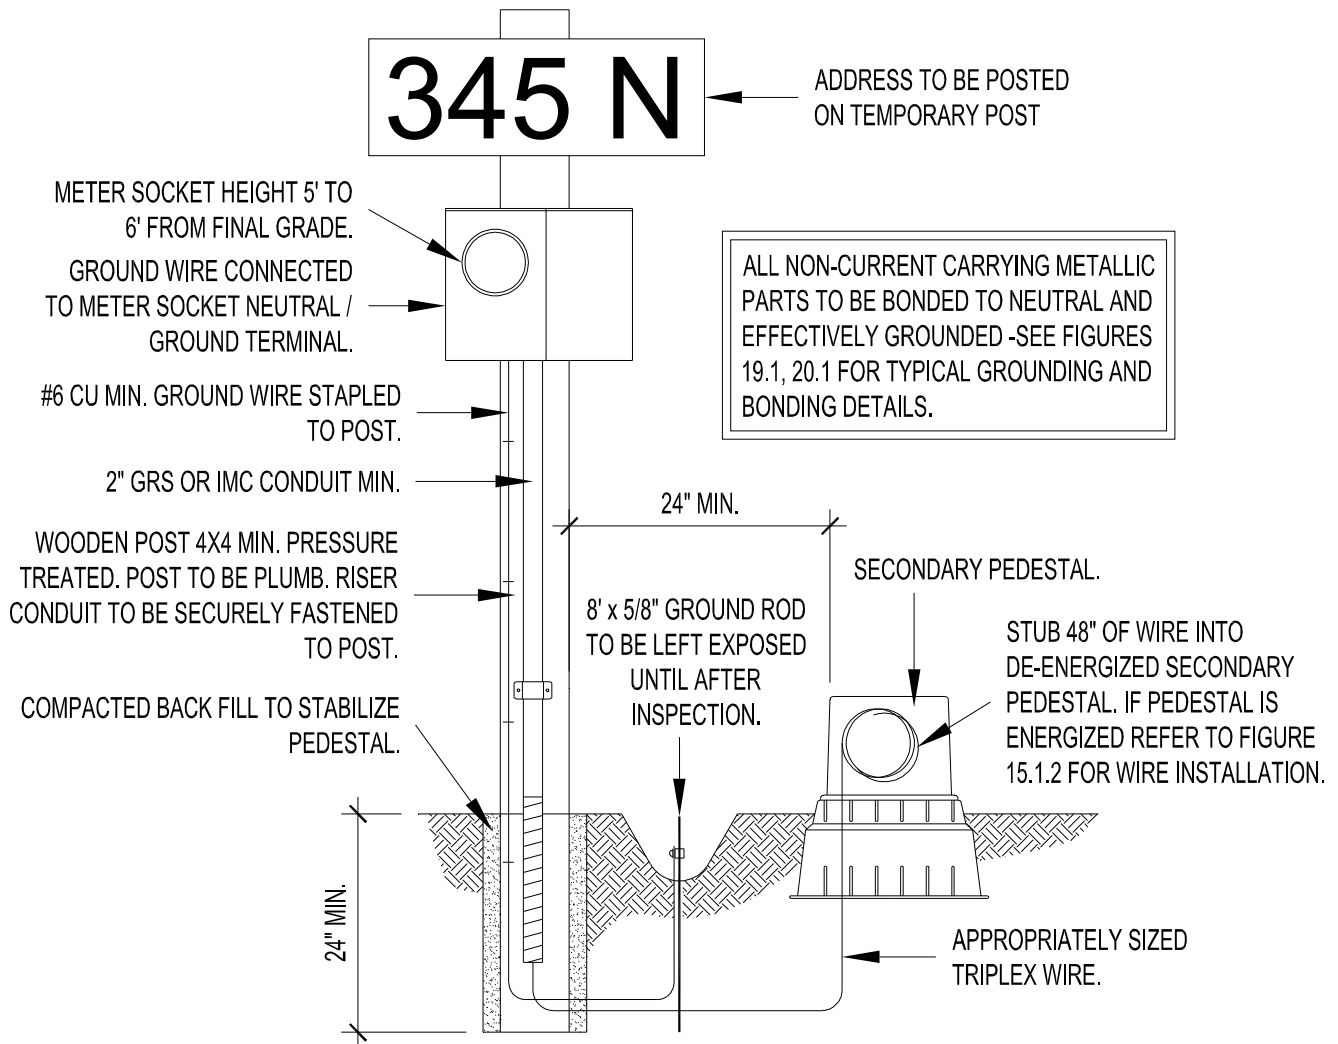

Figure 2.1 UG Temporary Power
- 1.1.2 Provo City Power requires owner\builder to supply and install temporary power pole including meter base, disconnects and outlets. (See Figures 2.1, 3.1)